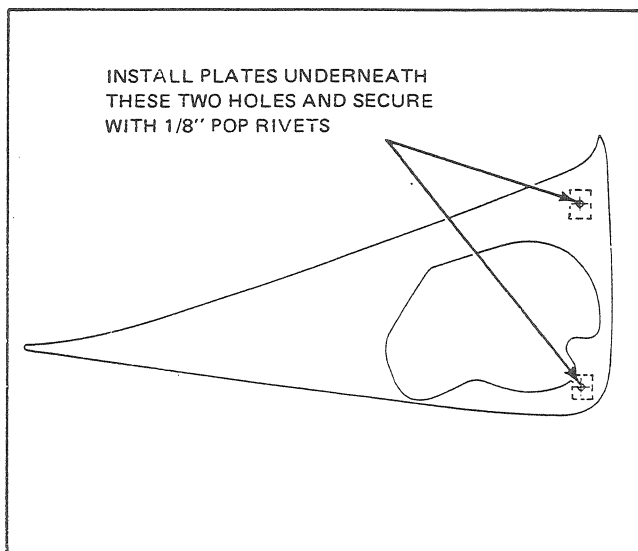

Fig. 4 - Article No. 108
19. Cut two (2) small steel or aluminum reinforcing plates 1-3/4" x 3/4" (approximately 1/16" thick). Place in position underneath the top and rear holes. Retain with 1/8" pop rivets. (See Fig. 4)